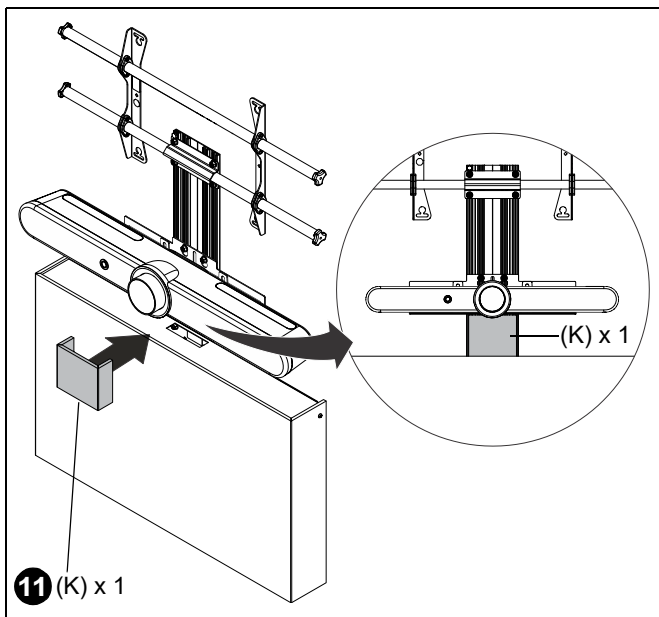

Figure 22
11. Press the edges of the small cover (K) into the outer slots of the upright extrusion (A) between the camera and the upper surface of the storage box (H). (See Figure 22)